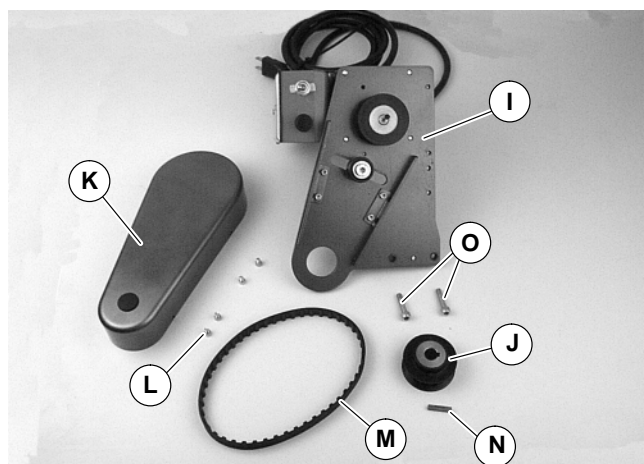

Figure 2
1. Typical components (Figure 2)